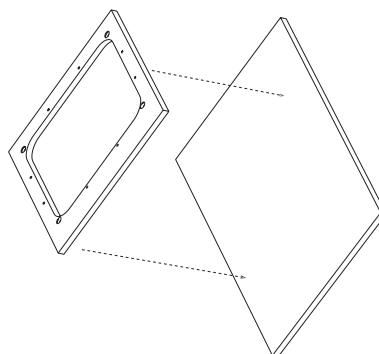

Fig.6
5. Place the wood template on your enclosure baffle to mark the holes for mounting. Make sure it is in the correct spot before you start cutting. Remember, "Cut twice, but only mark once!" Fig.6